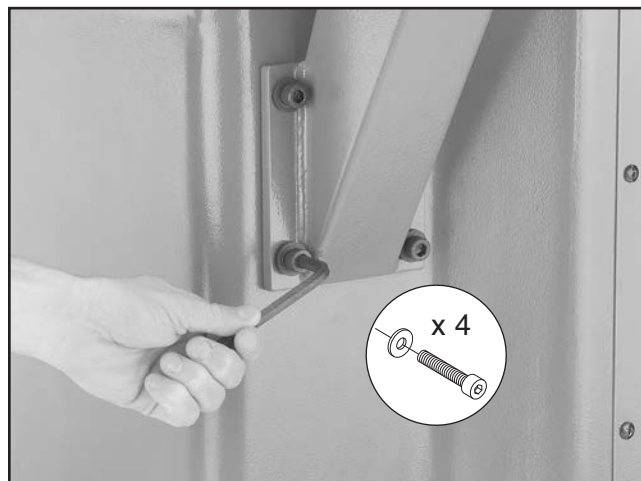

Figure 15. Installing control panel pedestal.
3. Remove the four pre-installed cap screws from the back of the joints, then, with assistance, secure the pedestal to the joints with these cap screws, as shown in **Figure 15**.